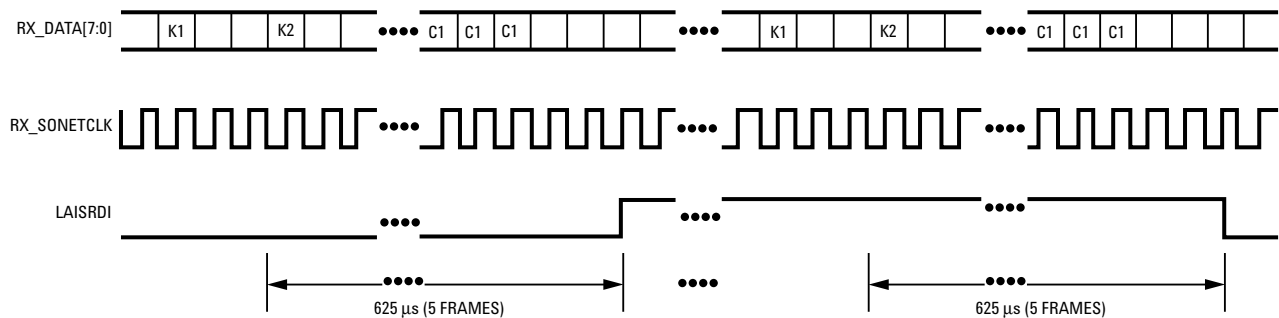

Figure 42. Line AIS and Line RDI Declaration/Removal
The line AIS and line RDI declaration/removal timing diagram (Figure 42) illustrates the operation of the LAIS and RDI outputs. A byte serial STS-3 (STM-1) stream is shown for illustrative purposes. LAIS (RDI) is declared when the binary pattern 111 (110) is observed in bits 6,7, and 8 of the K2 byte for three or five consecutive frames. LAIS (RDI) is removed when any pattern other than the binary pattern 111 (110) is observed in bits 6,7, and 8 of the K2 byte for three or five consecutive frames.